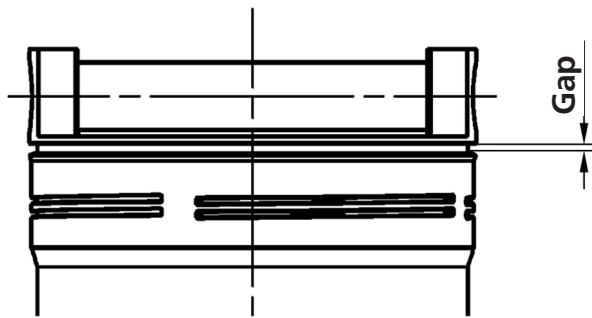

Fig. 3: Gap at the filter cover
- › Manually turn the cover until it stops; a gap between cover and housing may remain visible (see Figure 3).
1. Carefully insert the cover (1) with the filter element (2) into the filter tube.
2. Screw in the cover manually until it stops. A gap between cover and filter pipe may remain visible. (see Chapter 8.1 "Before commissioning" / Fig. 3)